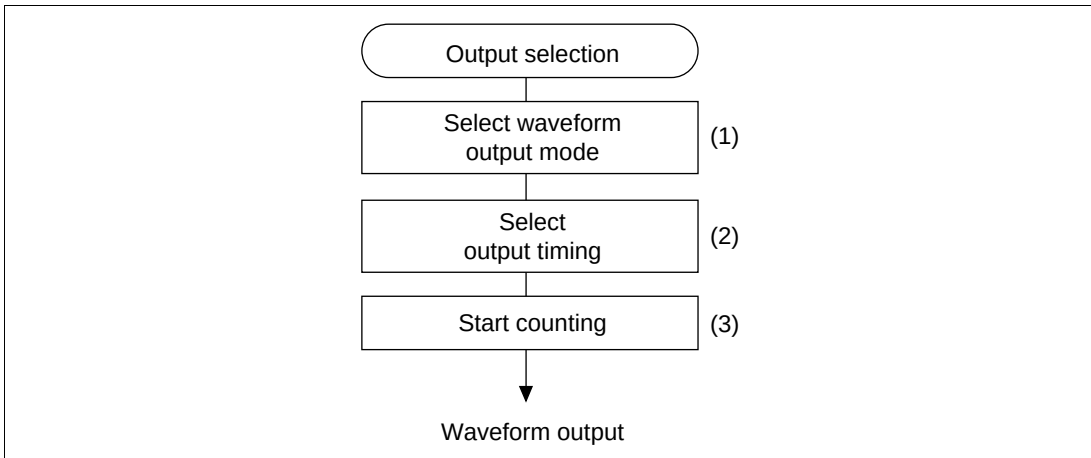

**Figure 10.19 Procedure for Selecting Compare Match Waveform Output Mode**
- Procedure for selecting the waveform output mode (figure 10.19):